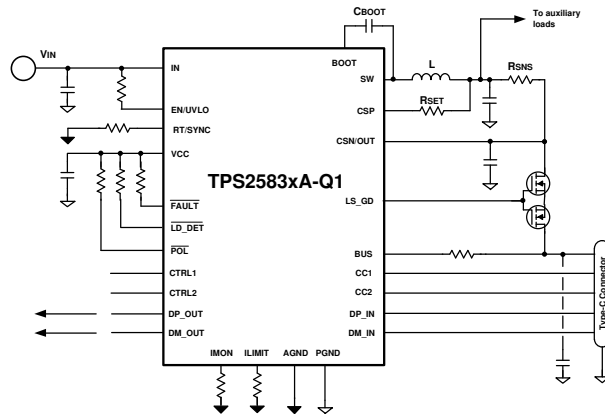

Figure 10-16. TPS2583xA-Q1 Current Limit With External MOSFET
- With external MOSFET Figure 10-16:
3. Typical R_{LIMIT} resistors value are listed in Figure 10-16, given the condition $R_{SNS} = 15 \text{ m}\Omega$ and $R_{SET} = 300 \Omega$.
The TPS2583xA-Q1 has integrated NFET gate drivers and can support current limit with external NFET. Refer to Figure 10-16.